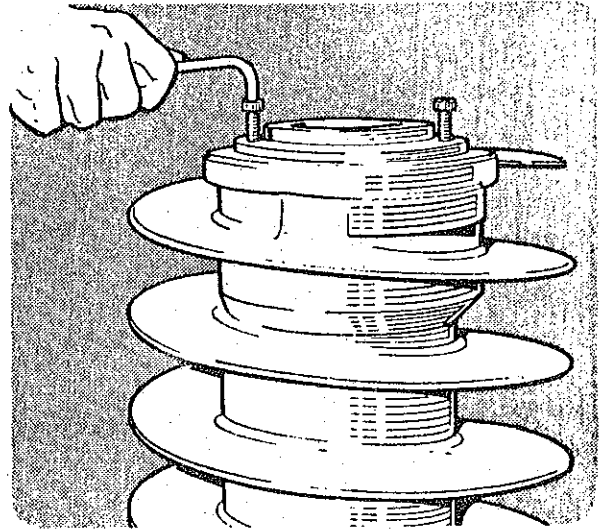

Figure 12. Seal Holder removal
- (i) Remove the four seal holder screws. Jack off the seal holder with the hardened steel jack screws supplied (Figure 12).